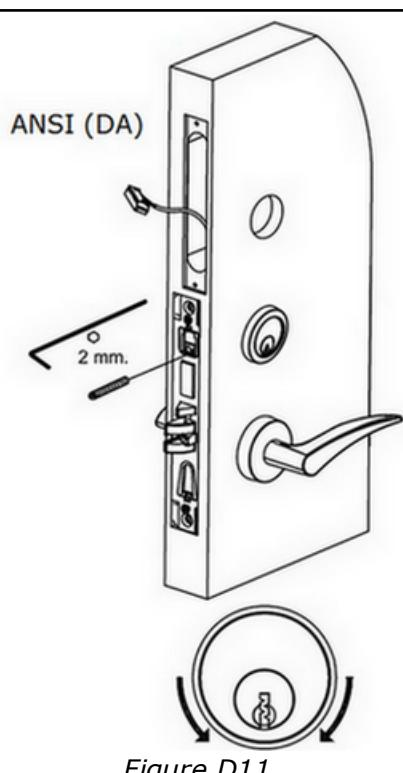

Figure D11
- Thread the *spring cylinder rose Signature (14)* onto the cylinder (15; see full names of the cylinder variants here) from the cylinder-arm side.
- The nominal way; insert the 2 mm *Unbrako* into the screw, and insert the screw in the hole facing towards the lock front. Tighten the cylinder in the lock case as illustrated in Figures D11-D13.